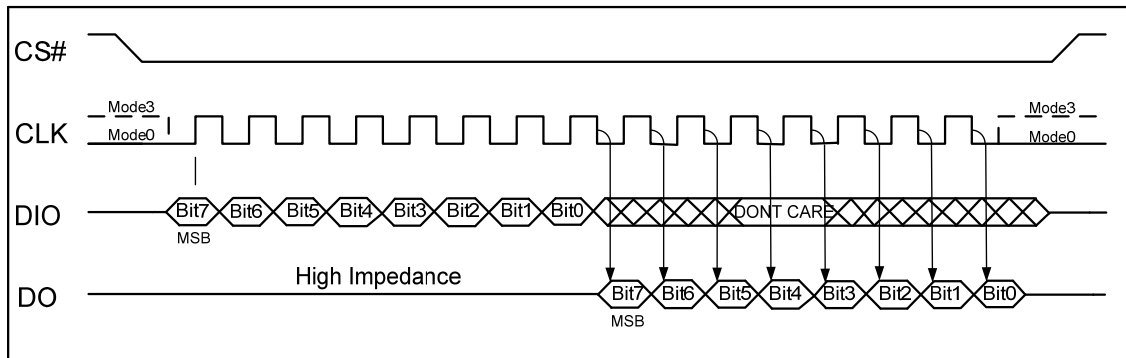

Figure 5, SPI Modes
The 25D40/20 are accessed through an SPI compatible bus consisting of four signals: Serial Clock (CLK), Chip Select (CS#), Serial Data Input / Output (DIO) and Serial Data Output (DO). Both SPI bus operation Modes 0 (0, 0) and 3 (1, 1) are supported. The primary difference between Mode 0 and Mode 3, as shown in Figure 5, concerns the normal state of the CLK signal when the SPI bus master is in standby and data is not being transferred to the Serial Flash. For Mode 0 the CLK is normally low. For Mode 3 the CLK is normally high. In either case data input on the DIO pin is sampled on the rising edge of the CLK. Data on the DO and DIO pins are clocked out on the falling edge of CLK.